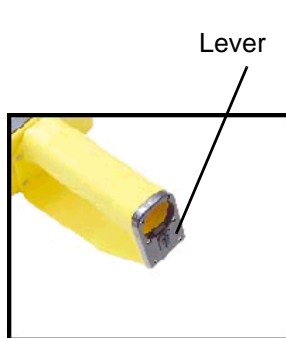

Figure 2.1
5. Press the battery compartment in the direction of the battery tube until it fully locks into place (see Figures 2.1 to 2.4).